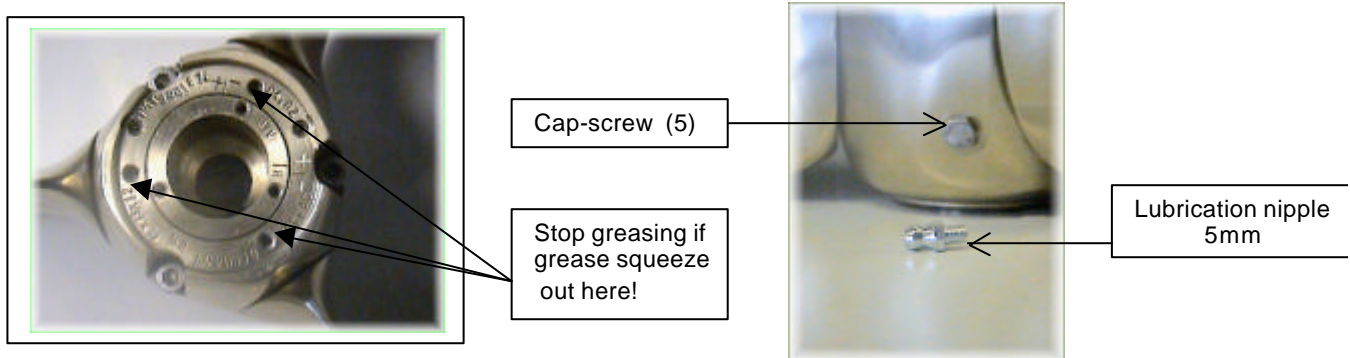

Fig.1A
The VARIPROP needs to be greased a minimum of once a year. The VARIPROP body should always be completely filled with a high viscosity **grease** of a hydrophobic nature. Remove the cap screw (5) and screw in the lubricating nipple which is supplied with the tools. Further remove the zinc anode! With each pump of the grease gun rotate the propeller from forward stop to reverse stop to allow the grease to work through the propeller. Stop to pump when enough grease comes out of the anode drill holes on top of the prop (Fig.1A).